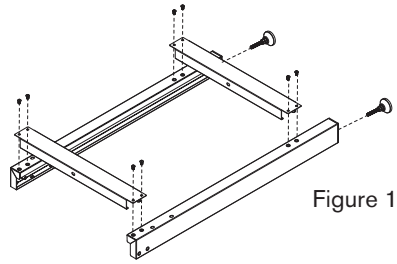

Figure 1
Assemble one end of the workbench by attaching (2) short cross braces to (1) Post A and (1) Post B using (4) M6 x 16 mm hex socket head screws per cross brace. See Figure 1.
Screw (2) leveling feet into the bottom of the legs. See Figure 1.